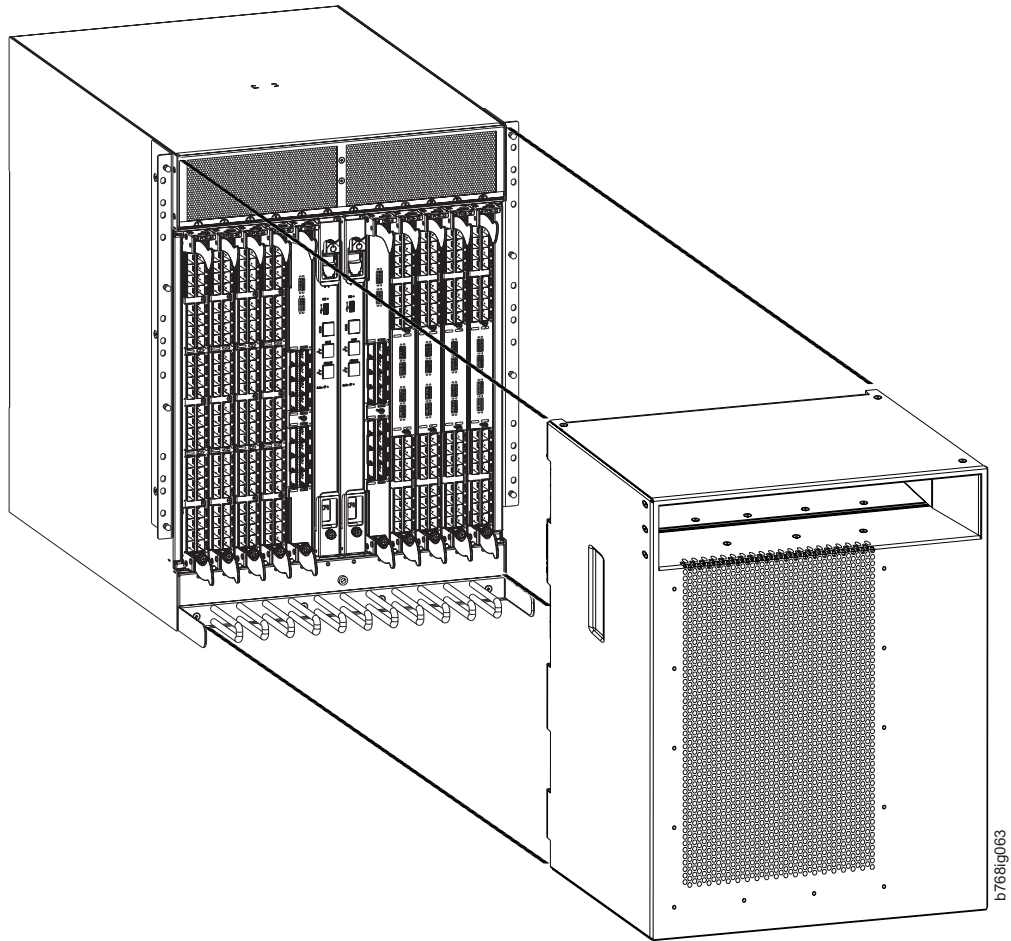

Figure 29. Chassis door
2. Pull and remove the door. It will pop off the ball studs (see Figure 29 on page 82).
1. Align the holes in the back side of the door with the ball studs on the chassis. See Figure 29.